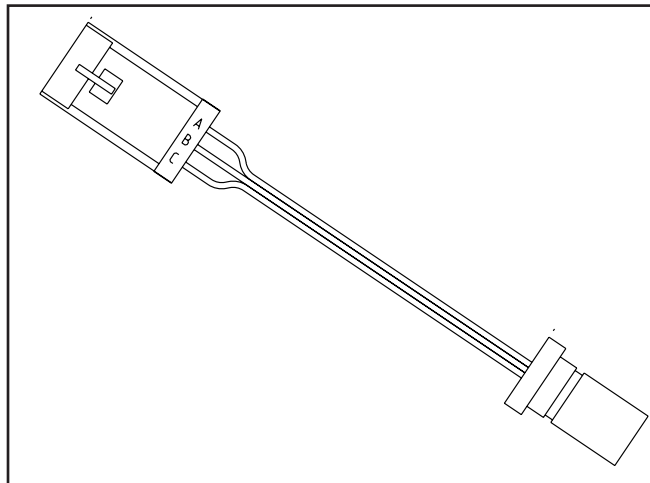

Figure 19
2. Connect the ohmmeter and observe the resistance change when the shaft or gear is moved (Figure 19).